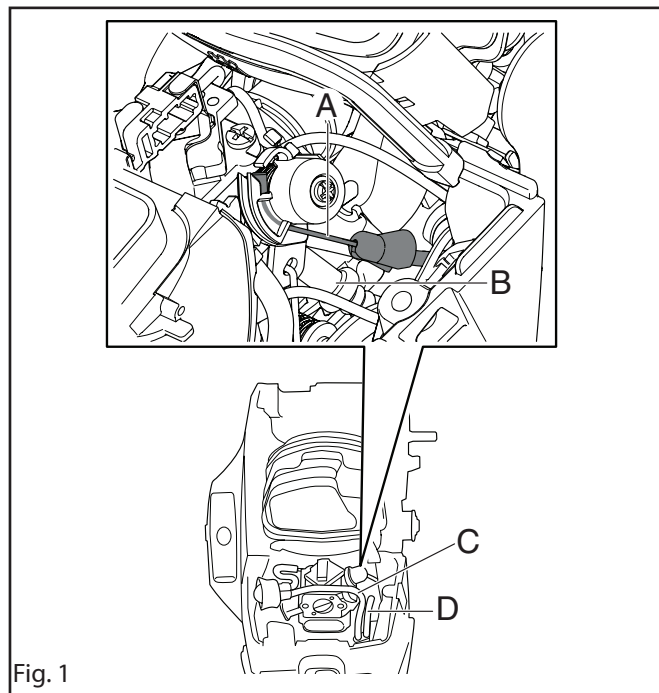

Fig. 1
4. Unhook the throttle cable (A) from the carburettor and the throttle cable casing. See figure 1.
5. Remove the fuel hose (B), tankvent hose (D) and the return hose (C). See figure 1.